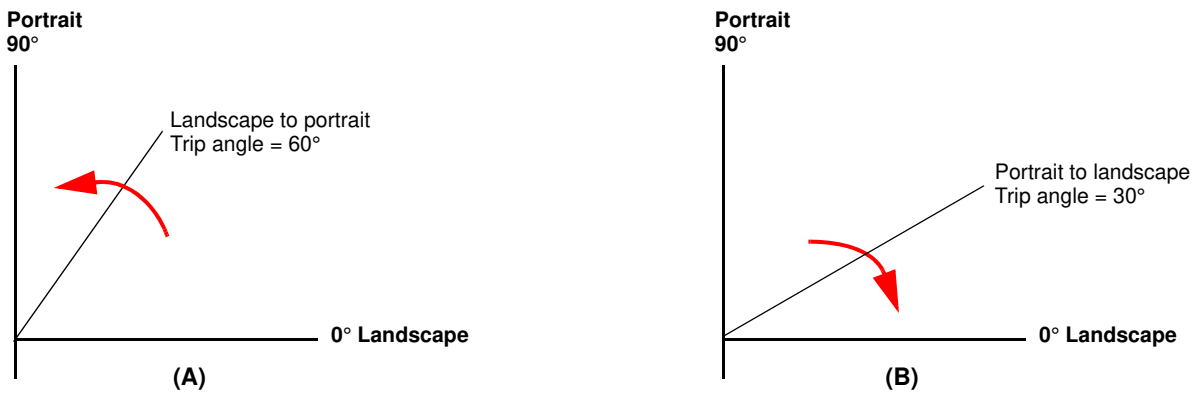

Figure 8. Illustration of landscape to portrait transition (A) and portrait to landscape transition (B)
Figure 8 shows the definitions of the trip angles going from landscape to portrait (A) and then also from portrait to landscape (B).